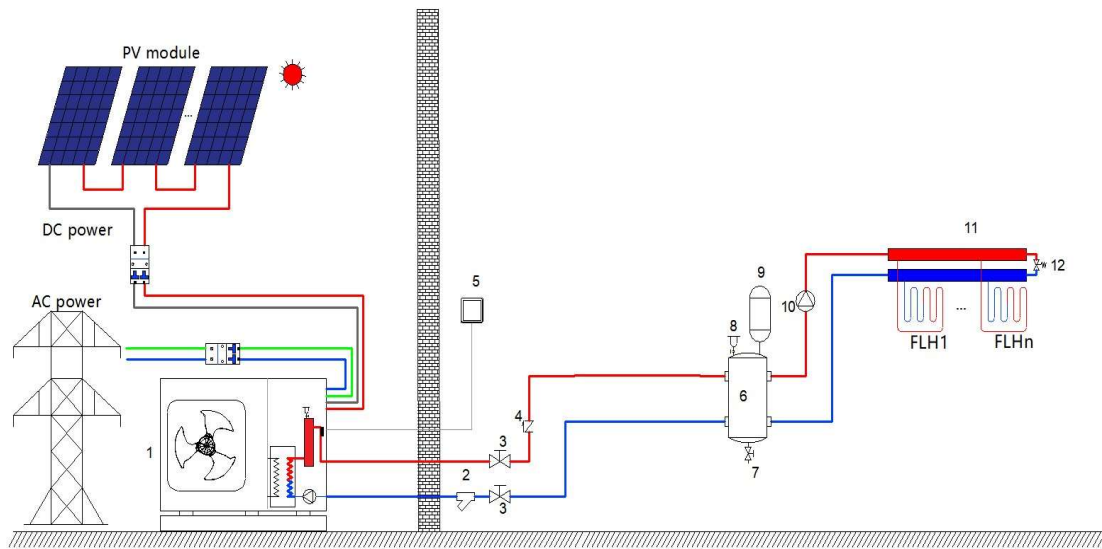

Figure 5-2
5.2.1 Single-zone control is shown in Figure 5-2 below